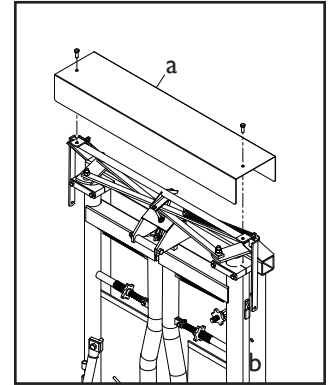

Figure 9: Removing headgate roof
3. Before each use, check the door latch to be sure that it is properly adjusted. First, remove the headgate roof (a) (Figure 9).